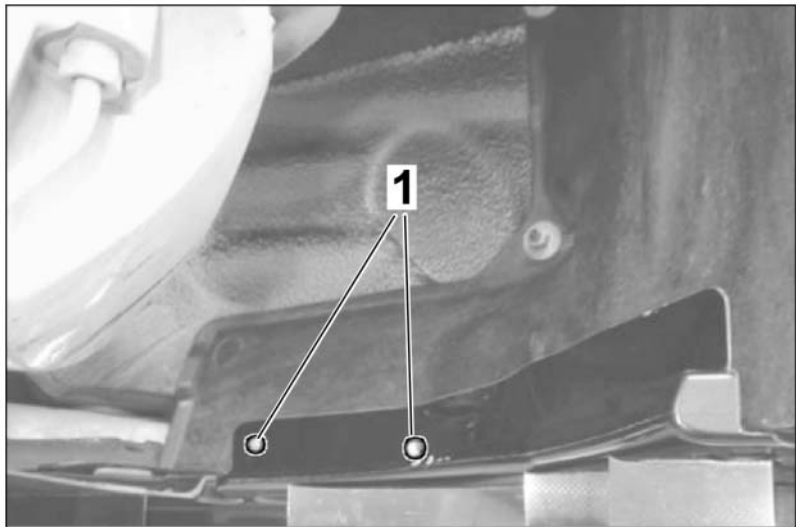

Figure 37
- 5.4.2 Fasten the air control element (rear) with two more ST4.8 x 16 tapping screws without collar in the area of the wheel arch (⇒ *Figure 37*).